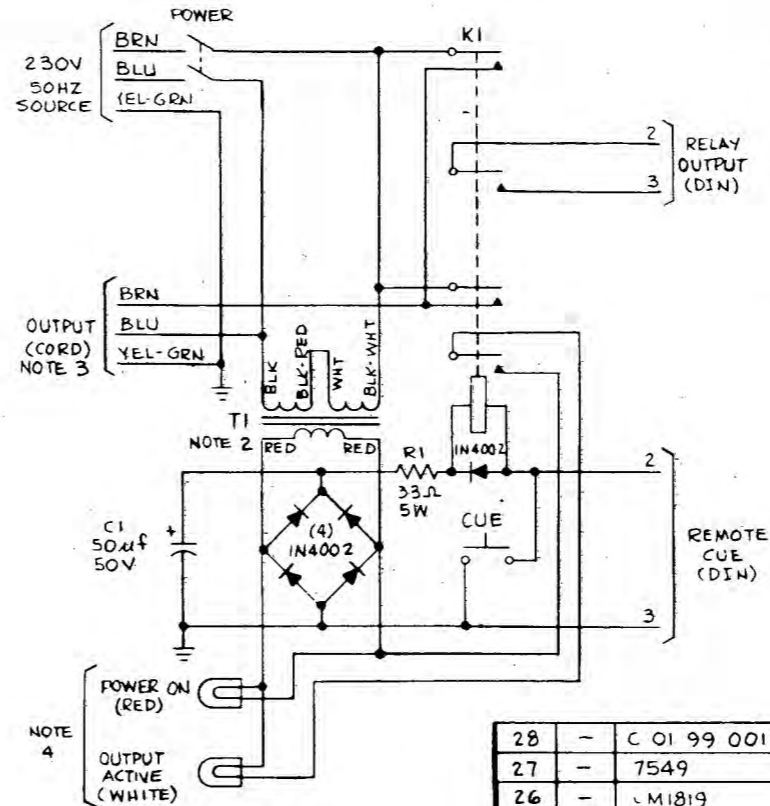

FIG. 2
2. TRANSFORMER IS NOT IN COMPLIANCE WITH IEC REQUIREMENTS. AN ENSIGN 7549 TRANSFORMER IS SUPPLIED. WIRE PER FIG. 2 SCHEMATIC.
4. NEON LAMPS ARE NOT IN COMPLIANCE WITH IEC REQUIREMENTS. TWO 30V INCANDESCENT LAMPS AND HOLDERS ARE SUPPLIED (ITEMS 25 & 26). WIRE PER FIG. 2 SCHEMATIC.